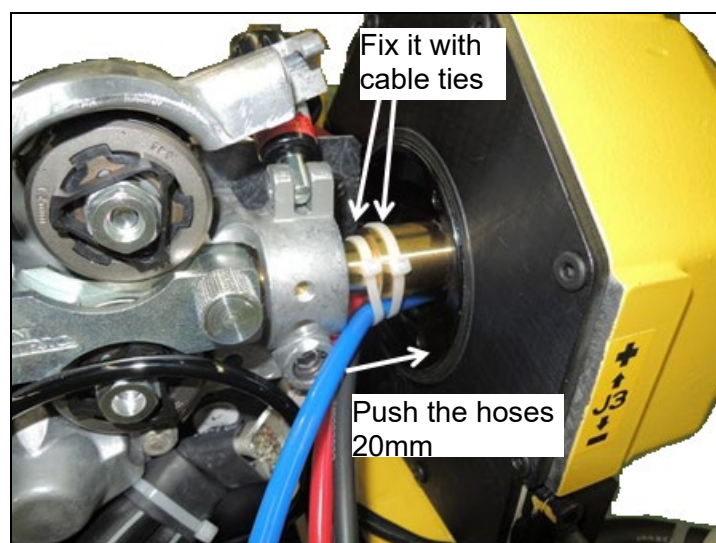

Fig. 7.4 (i) Forming of hoses
- 16 Attach fixation 2 bolts of torch side referring to Fig. 7.4 (c). Tighten black bolt with torque of 7.5Nm.